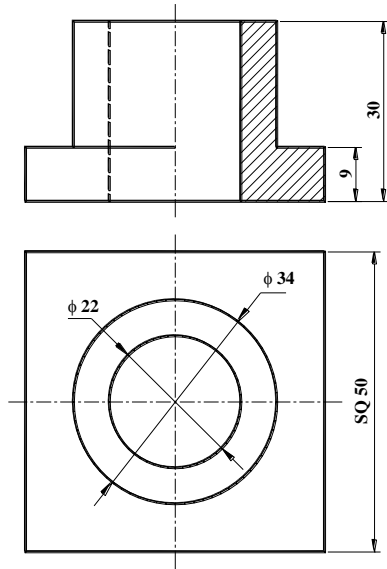

FIGURE T1.2A
2. 2. DRAW THE ISOMETRIC DRAWINGS IN SECTION FROM THE GIVEN SECTIONAL VIEWS IN *FIGURE T1.2A* AND *T1.2B*.